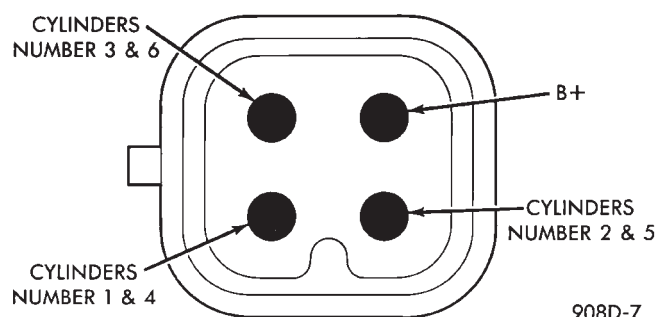

Fig. 7 Ignition Coil Terminal Identification
(3) Measure the primary resistance of each coil. At the coil, connect an ohmmeter between the B+ pin and the pin corresponding to the cylinders in question (Fig. 7). Resistance on the primary side of each coil should be 0.5 - 0.7 ohm. Replace the coil if resistance is not within tolerance.